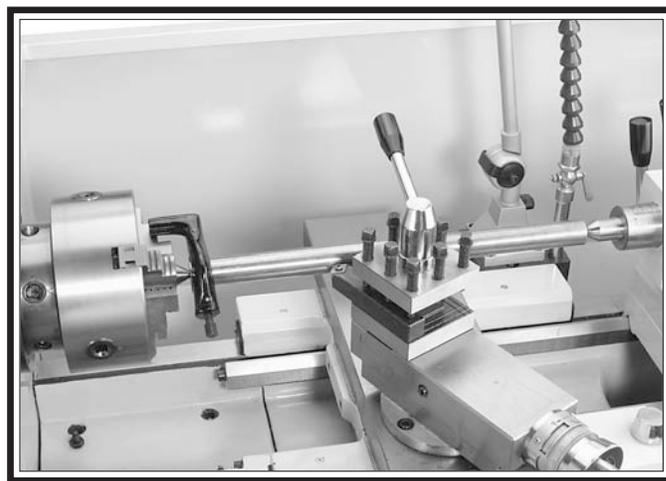

Figure 54. Example photo of a workpiece mounted between the centers.
5. Seat the center firmly into the quill by rotating the tailstock handwheel clockwise to apply pressure against the workpiece (see the example in **Figure 54**).